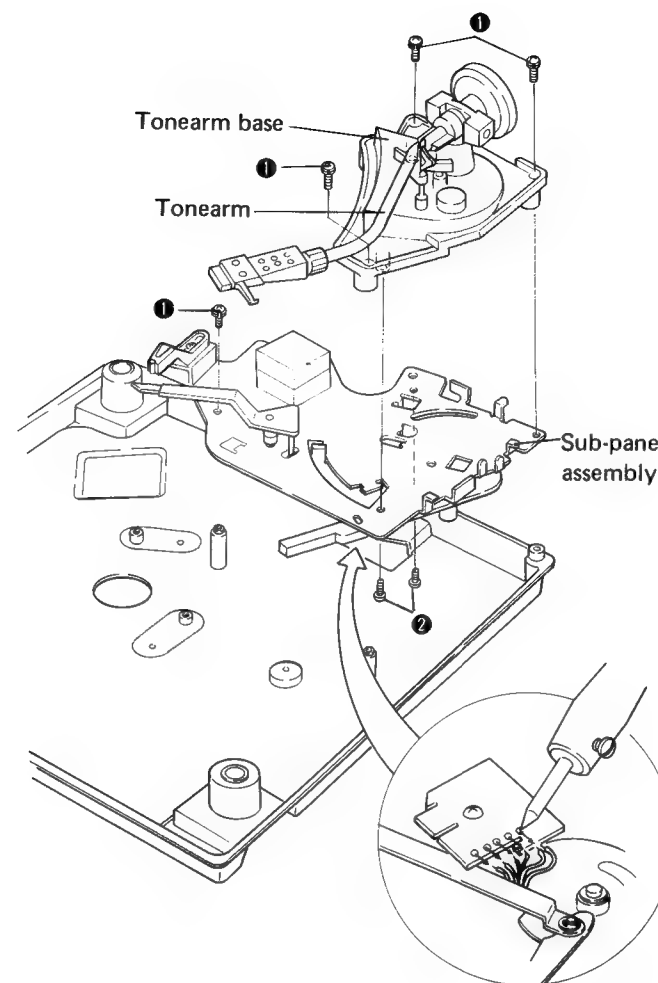

Fig. 15
2. Then undo the 3 screws ① securing the motor.
6.3 SUB-PANEL ASSEMBLY AND TONEARM BASE (Fig. 15)